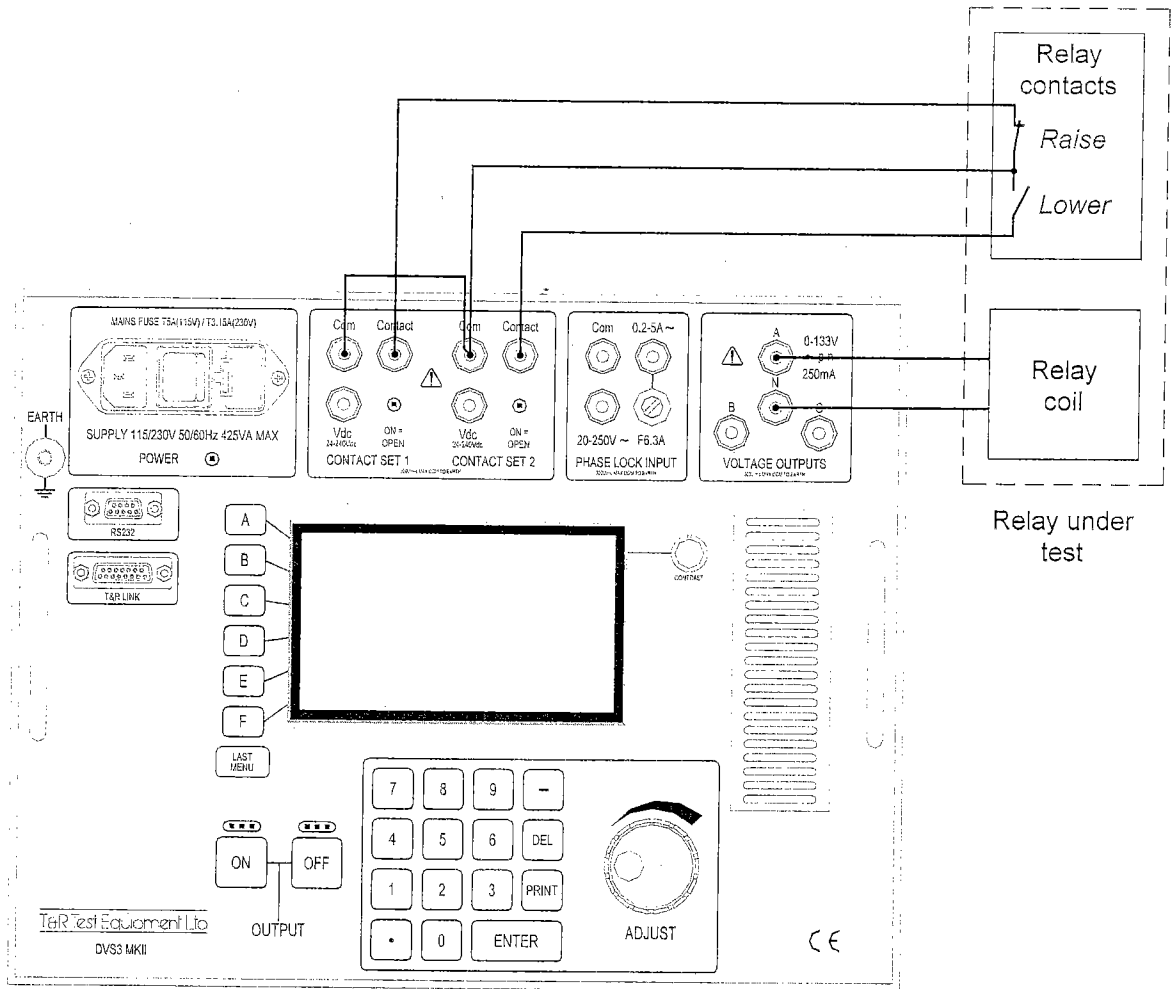

Figure 3.1 Connections for AVR relay
- Connect an auxiliary supply to the relay if required (not shown in figure 3.1)